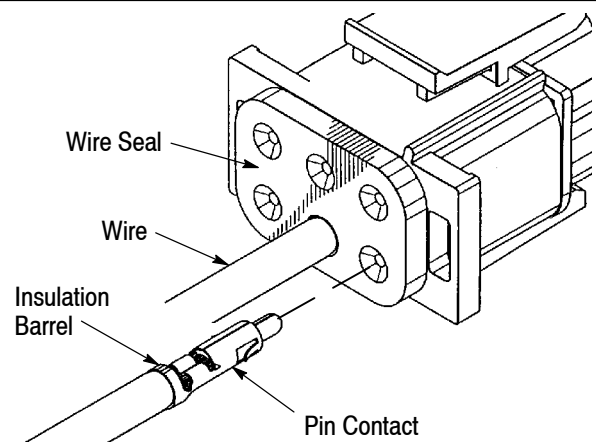

Figure 4
4. Align the terminated pin or socket contact with appropriate contact cavity in the back (wire end) of the plug or cap housing. This alignment is to help ensure that the wire seal will not be damaged during the insertion process. Grasp the wire (close behind the contact insulation barrel) and push straight into the cavity until an a click is heard, then pull back lightly on the wire to be sure the contact is locked in place. Pin and socket contacts may be inserted in either the plug or cap housing, or they may be intermixed in each housing to provide additional keying combinations. See Figure 4. Insertion Tool 455830-1 is available for inserting contacts.